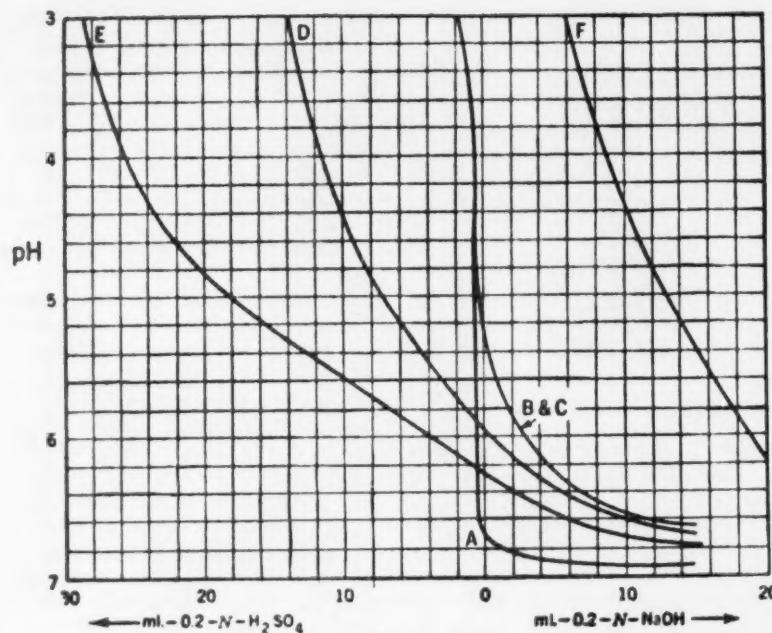

Fig. 4
The buffering action of boric acid is effectively demonstrated by the titration curves shown in Fig. 4, which represent changes occurring in pH when 50 ml. of nickel solutions of different compositions are titrated with 0.2N  $H_2SO_4$  and 0.2N NaOH. Curve A, for example, representing a normal (N) nickel sulfate solution, requires little acid (or alkali) to change the pH between 4 and 6. Curve B represents the titration curve for a solution containing 1.0N  $NiSO_4$  and 0.5M  $H_3BO_3$ ; and curve C is the titration curve for a solution containing 0.2N NaCl in addition to 1.0N  $NiSO_4$  and 0.5M  $H_3BO_3$ . Curve D, it will be noted, requires as much as 12cc of 0.2N NaOH to raise the pH from 4 to 6. This solution consisted of 1.0  $NiSO_4$ , 0.5M  $H_3BO_3$ , 0.1N NaF. The addition of fluoride, it is believed, improves the buffering action by the formation of complexes of fluoboric acid. The curves E and F represent compositions similar to that for the solution for curve D, with solution E containing a higher concentration, 0.2N sodium fluoride, and curve F 0.1N HF instead of the salt NaF.